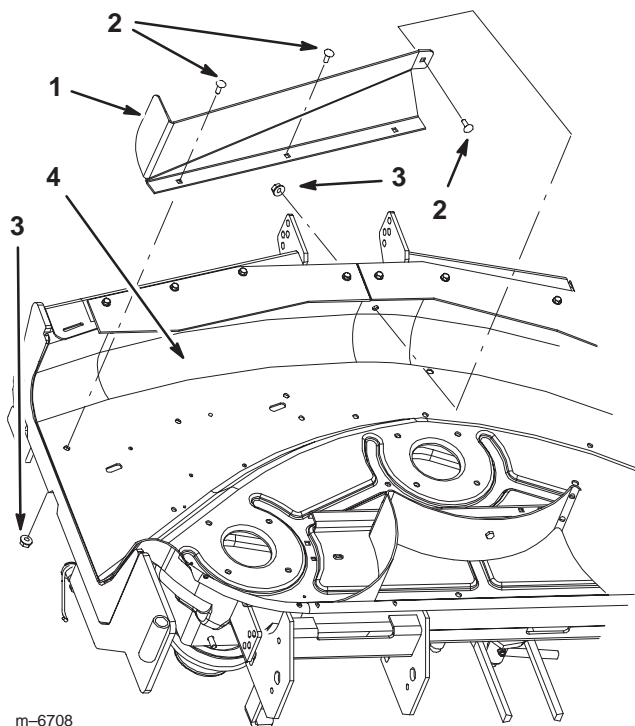

Figure 6
6. Install the front tunnel baffle to the mower with 4 carriage bolts (5/16 x 5/8 inch) and 4 flange nuts (5/16 inch) (Fig. 6).
4. Using the baffle as a template, center punch and drill 3 holes (11/32 inch dia.) into the top of the mower (Fig. 6).